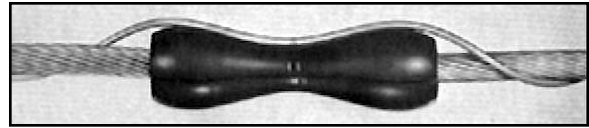

FIGURE 5a - PROPER APPLICATION
- 3.03** Center the first Suspension Rod on the insert with the color mark positioned out and wrap over the insert and the current transfer tab. Apply sufficient length of rod to assure stability, leaving final foot or so on each end temporarily free. (Figures 5a, 5b and 6)